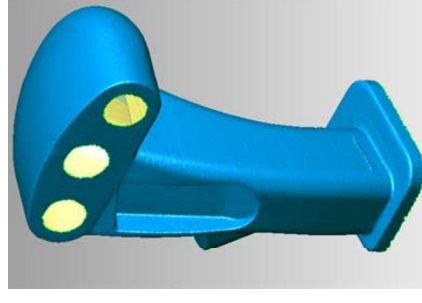

Figure 96
- Select **Fit Model to View** on the **Right-Side Toolbar**, see **Figure 96**.